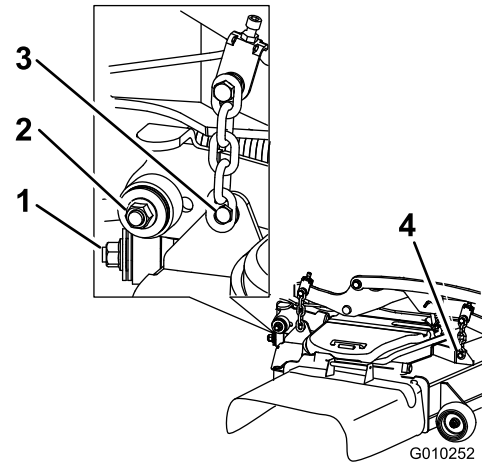

Figure 115
7. Remove and retain the hardware on both sides of the deck as shown in Figure 115.